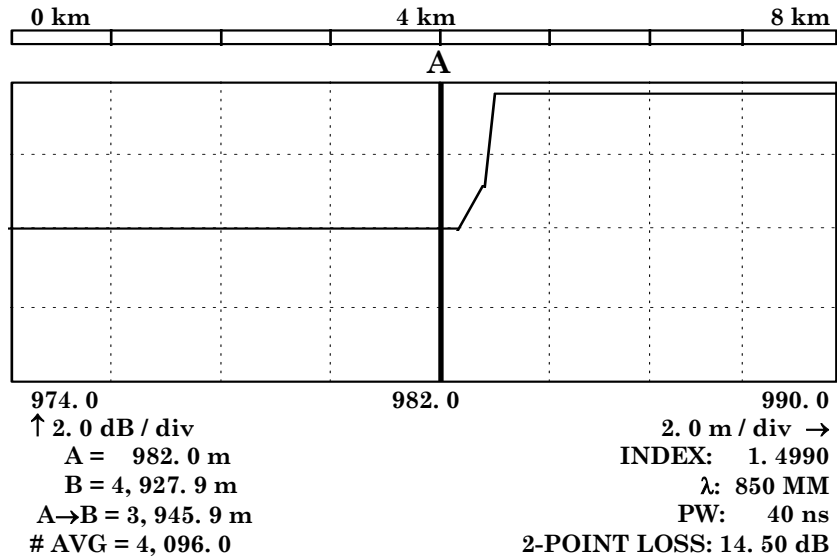

Figure 23. Example of FOCUS generated pulse placement just to right of cursor A before starting 3 nanosecond increments (TD-260C).
k. Perform steps (1) through (4) below:
(1) Press digital delay generator **MENU DELAY** pushbutton to decrease $A = T+$ value by 100 nanoseconds increments until FOCUS generated pulse is just to the right of cursor A (fig. 23).
(2) Press **HOR EXP** as required for a display indication of **2.0m/div**.
(3) Repeat technique of (1) above using 10 nanosecond increments instead of 100 nanosecond increments (fig. 23).